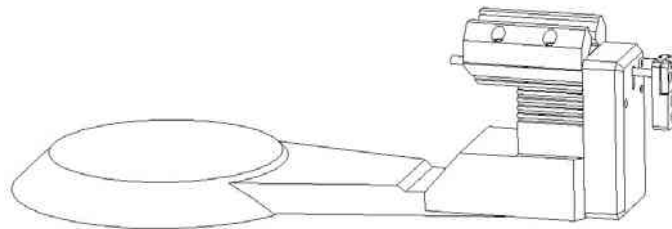

Figure 2.1 The universal theta arm
6. Unscrew the two upper M4 screws connecting the slider to the lead screw which defines the camera distance. Turn the end plate of the slider anticlockwise by 180 degrees. Remove the CCD camera from the slider carefully and place in the storage box. The empty slider will appear as in Figure 2.1